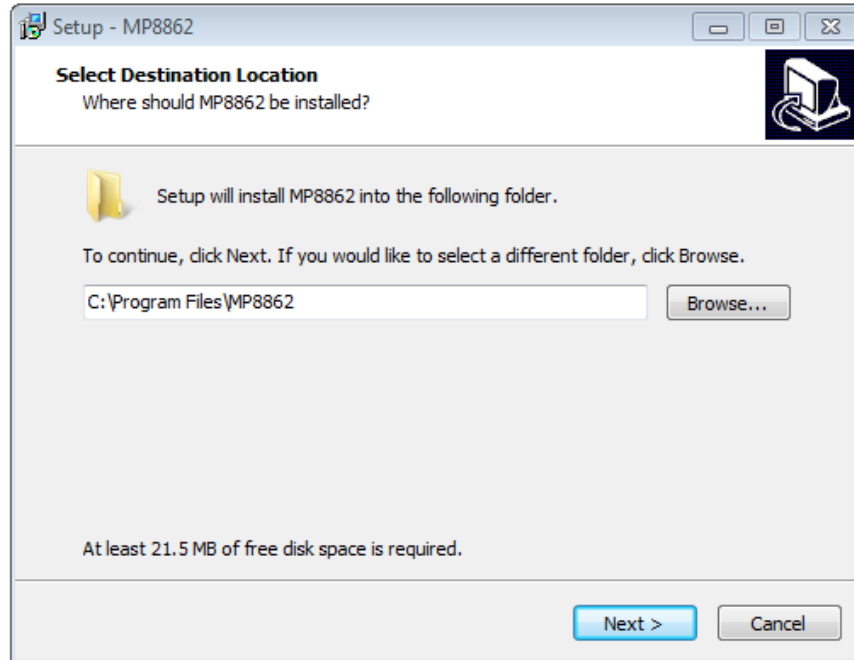

Figure 4: MPS I²C GUI Set-Up Guide
1. Double click the .exe file to open the set-up guide (see Figure 4).